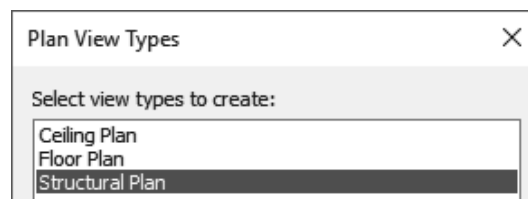

Figure 1–49
7. Add three more sequential levels above **TOS-Floor 1** with a distance of **15'-0"** between each level, and one level below **Ground Floor** named **T.O. Footing** with a distance of **15'-0"** between them. Make sure to click **Yes** to rename the corresponding views. Figure 1–50 shows the levels completed.